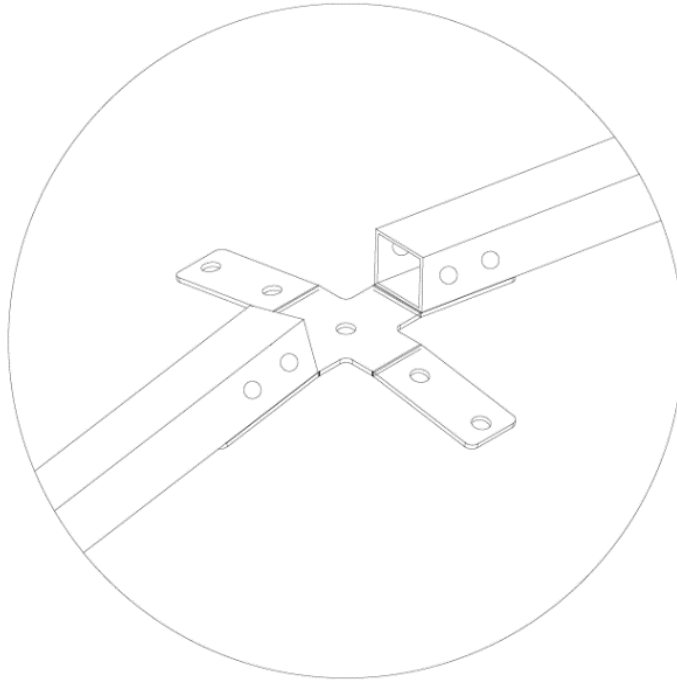

Figure 1
1. Locate all four 55.3" Roof Rafters (Aluminum square tubing) and Rafter Bottom Bracket. Attach two of the Roof Rafters to the Rafter Bottom Bracket using two 1/4 -20 x 3/8" screws threaded into the two inserts in bottom of each Roof Rafter. The Rafter Bottom Bracket has four slightly bent "legs". The two Roof Rafter tubes should be bolted onto the legs of Bottom Bracket that are directly across from one another creating a straight line with the two Roof Rafters. Rafter Bottom Bracket should be orientated so that when bolted onto bottom of Roof Rafters, the Roof Rafters form a slight peak as shown in Figure 1.